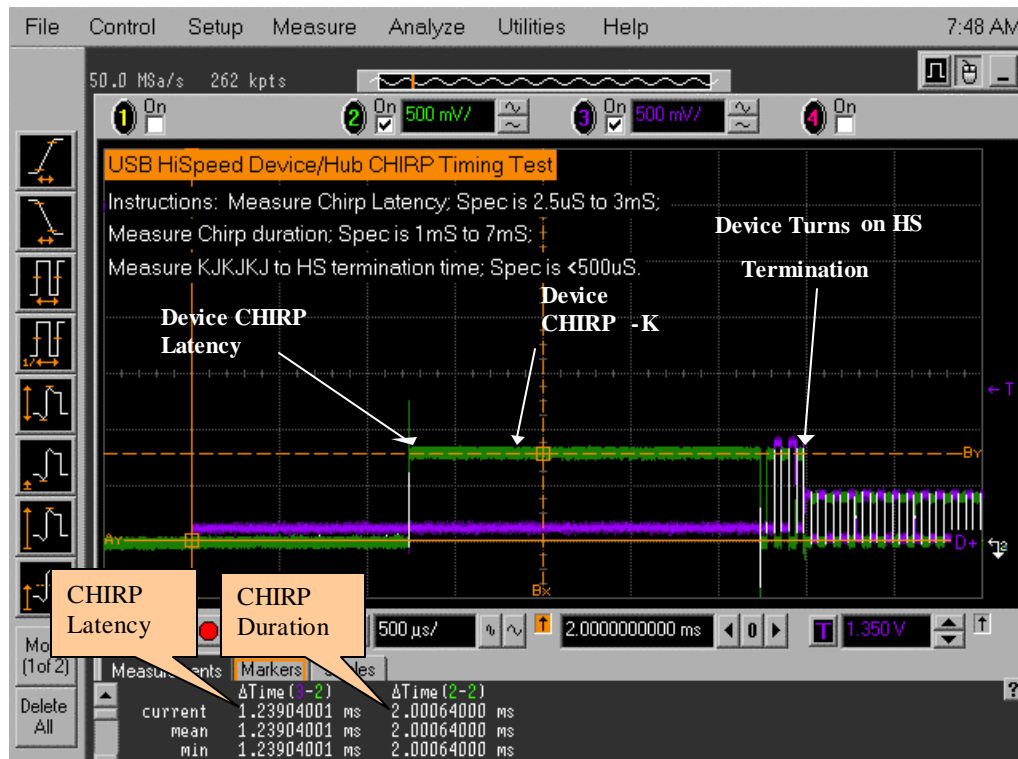

Figure 40. Hub Chirp (Speed Detection)
- b. Click [Enumerate Bus] and capture the CHIRP handshake as in Figure 40.
5. Using the oscilloscope's automatic measurement shown in Figure 40, measure the hub's CHIRP-K latency ($T_{WTRSTFS}$) in respond to the reset from the upstream host port
6. Using the oscilloscope's automatic measurement shown in Figure 40, measure the hub's CHIRP-K duration.